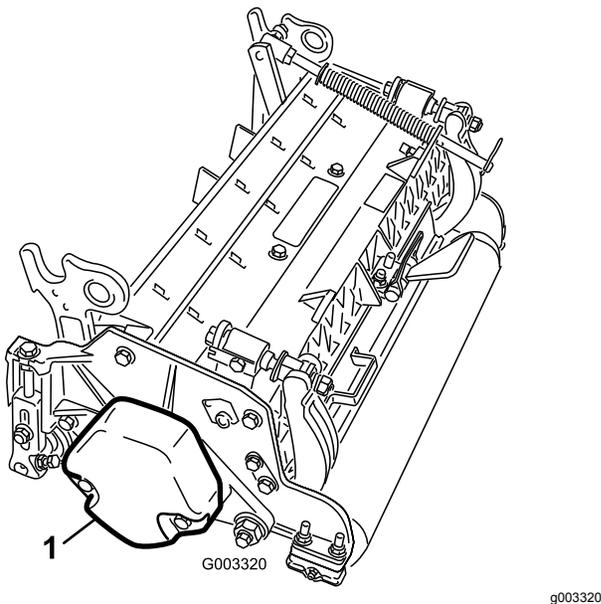

Figure 4
- Make sure that the counter weight (Figure 4) is installed to the proper end of each cutting unit as described in the *Operator's Manual* for the cutting units.